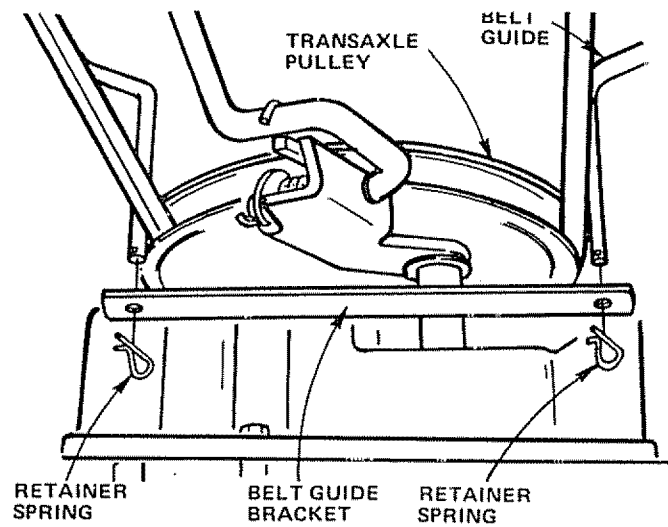

FIGURE 39
- b. Remove two Retainer Springs from Belt Guide Bracket below Transaxle Pulley. Remove Bracket (Fig. 39).
- c. Swing Belt Guides away from Belt, toward rear of tractor (Fig. 39).